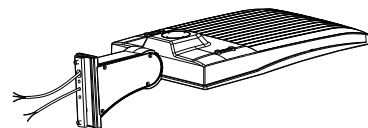

Figure 4
- Step 2: Install the mounting on the fixture, then cover the side lid and tighten it. (Figure 4)